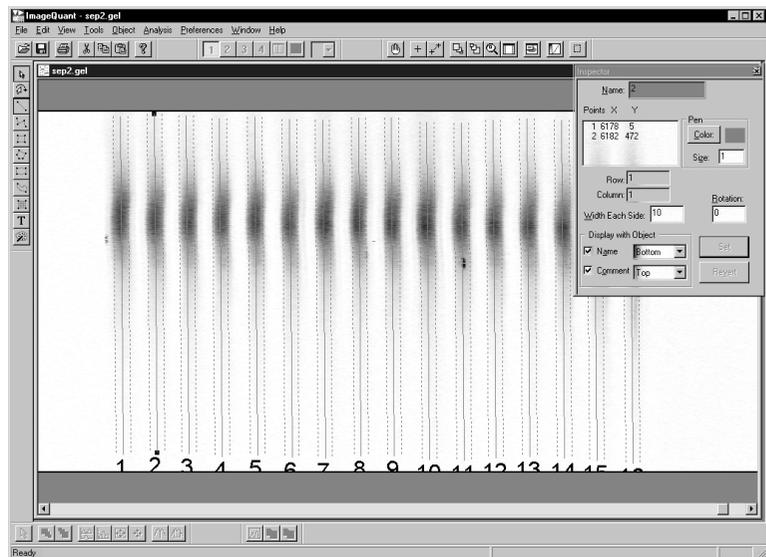

Figure 4-17. Image file with vertical lines drawn on capillaries.
10. If necessary, move the lines to better positions on the capillaries until the lines appear to be in the center of the capillaries (figure 4-17).